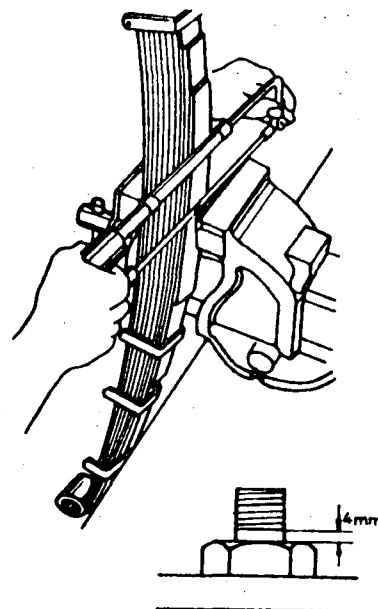

Fig. 3
- 4th Step - Replace the guide bolt by the centre bolt and replace the nut (fig. 3).
a) Tighten the nut and cut the centre bolt about 5mm from the nut with a hacksaw (fig. 3).